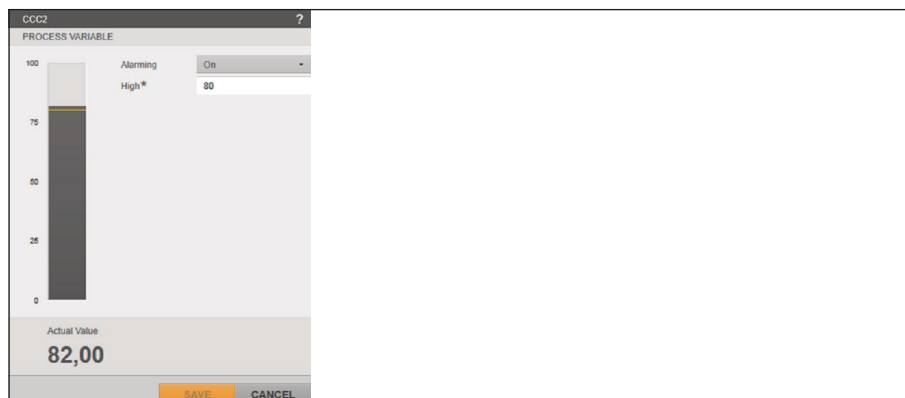

Fig. 6-29: Details and input screen of a process variable with calculated value and activated alarm function during a running batch
- Process variable with calculated value for the case that a licensed “Calculation Module” is available (in accordance with the “BioPAT® MFCS Calculation Module instructions”) (see Fig. 6-29, 119)